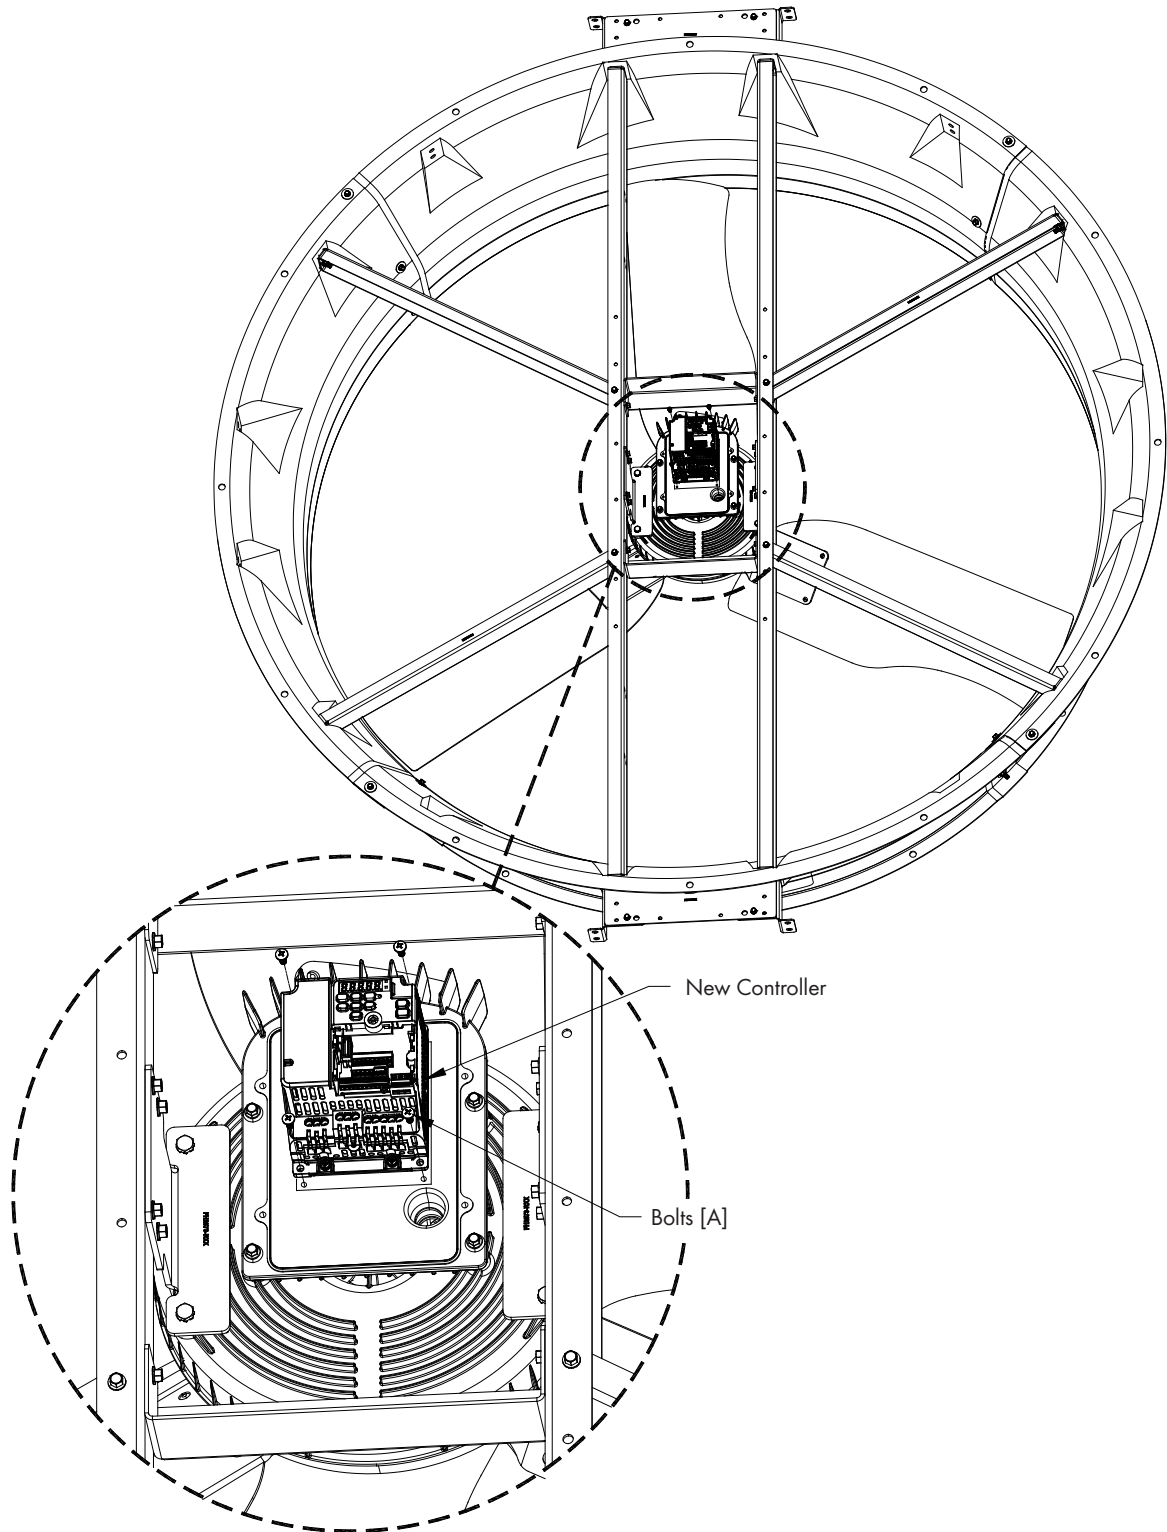

Figure 13
Attach the new Munters Drive Controller to the heat sink where the old one was and secure it in place with (4) Bolts [A]. See Figure 13.